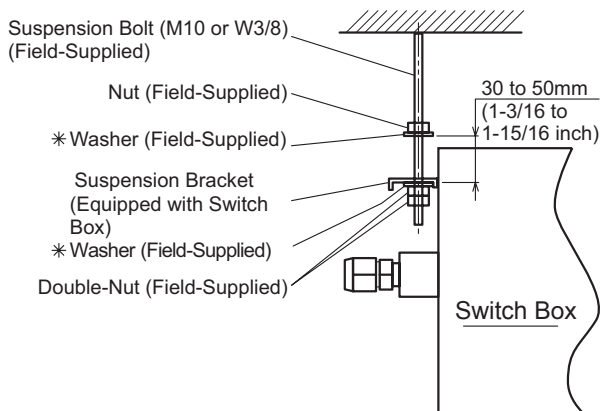

Figure 4.4 Suspension
- (1) Put nuts on each of the two suspension bolts before hanging the Switch Box, as shown in Figure 4.4.